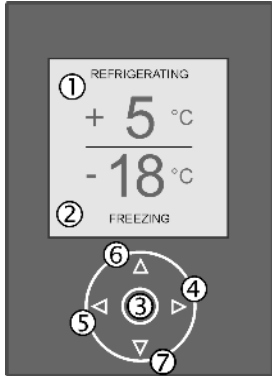

Fig. 3
- **To move the cursor up:** Press Up button Fig. 3 (6).
- **To move the cursor down:** Press Down button Fig. 3 (7).
- **To move the cursor to the left:** Press left button Fig. 3 (5).
- **To move the cursor to the right:** Press right button Fig. 3 (4).
- **To page forwards:** Press right button Fig. 3 (4).
- **To page back:** Press left button Fig. 3 (5).
- **To confirm selection:** Press OK button Fig. 3 (3).
- **To quit menu:** Press left button Fig. 3 (5).